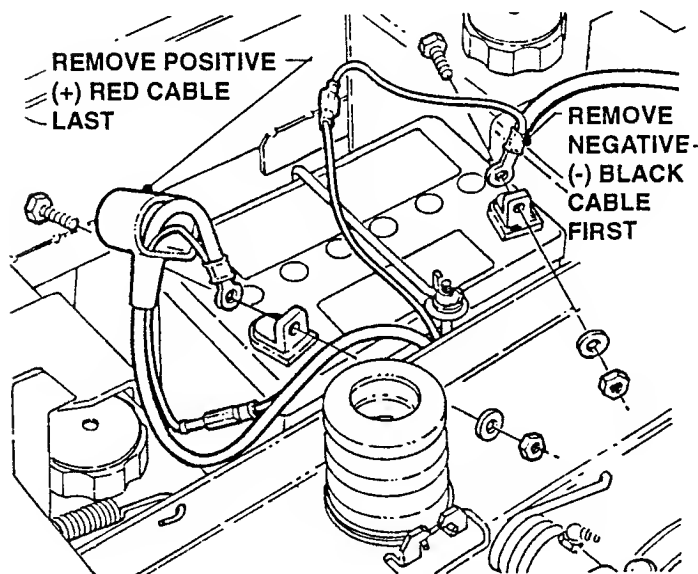

FIGURE 6.9
1. Disconnect the Battery. Remove NEGATIVE (-) BLACK Cable first and POSITIVE (+) RED Cable last. Secure Cables away from the Battery. See Figure 6.9.